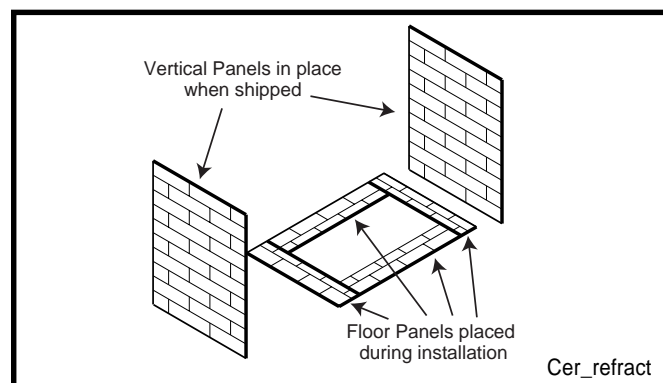

Fig. 40 Ceramic panel installation
The vertical refractory panels are installed in the unit prior to shipment. For assembly procedures, refer to Fig. 40.
NOTE: 360DVS2 is the only 360DV unit that is fitted with two (2) end vertical panels, as shown in Fig. 40. 360DVSL and 360DVSR units are each fitted with one end vertical panel and one side vertical panel.